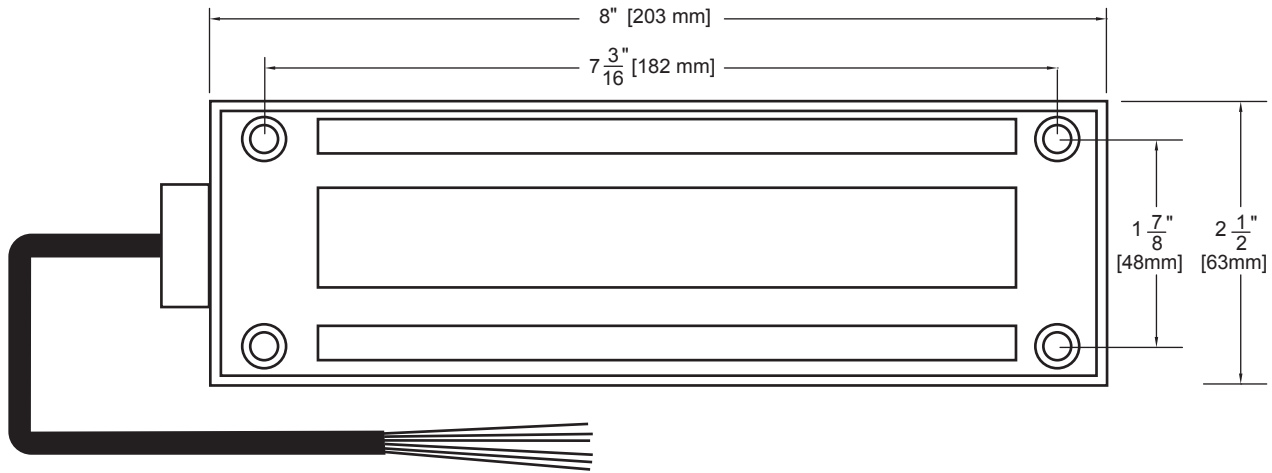

Figure 3.1 Electro-Magnetic Gate Lock Dimensions
3. Using the Dimensions diagram and your own measurements, layout mounting screw locations with the gate/door in its normally closed position. (Figure 3.1)